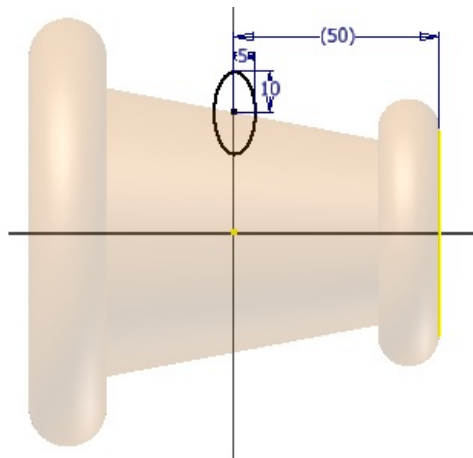

Figure 14-54 Ellipse created on the XY plane
1. Define a new sketch plane on the XY plane and then create an ellipse, as shown in Figure 14-54. Note that the center point of the ellipse should be coincident with the edge of the base surface.